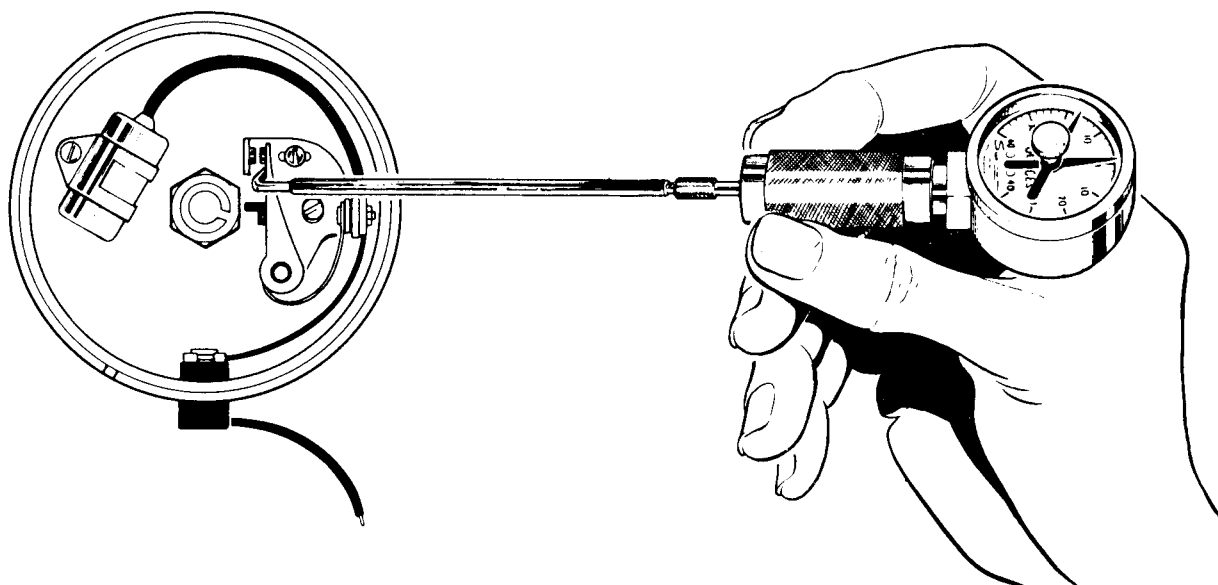

Figure 5. Measuring Breaker Arm Spring Tension
Proper tension of the breaker point spring is an important factor in obtaining normal breaker assembly life and maintaining full ignition system efficiency throughout the speed range of the engine. Excessive spring tension can cause rapid rubbing-block, cam, and contact wear while insufficient spring tension may allow the points to bounce at high speeds which generally results in arcing and burning of the points and causes the engine to misfire. (See Figure 5)
- b. With dwell meter calibrated and distributor test leads connected to distributor as for distributor resistance test, place hook of tension scale over movable lever near the contact point. (See Figure 5.)